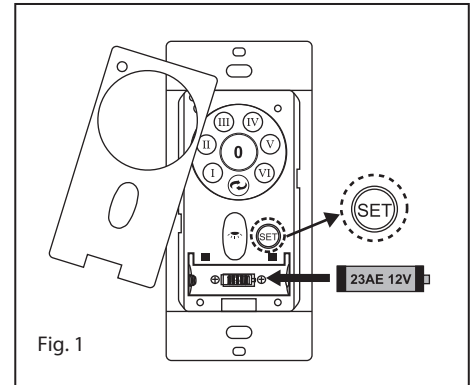

Fig. 1
**1** Insert the receiver into the ceiling mounting bracket with the flat side of the receiver facing the ceiling. (Fig. 1) For best performance, make sure the Black Antenna, on the end of the receiver, remains extended and not tangled with any of the electrical wires.
- 1 Remove the existing wall plate and the old switch from the wall outlet box. (Fig. 1)
Follow the below steps to use the set button. (Fig. 1)